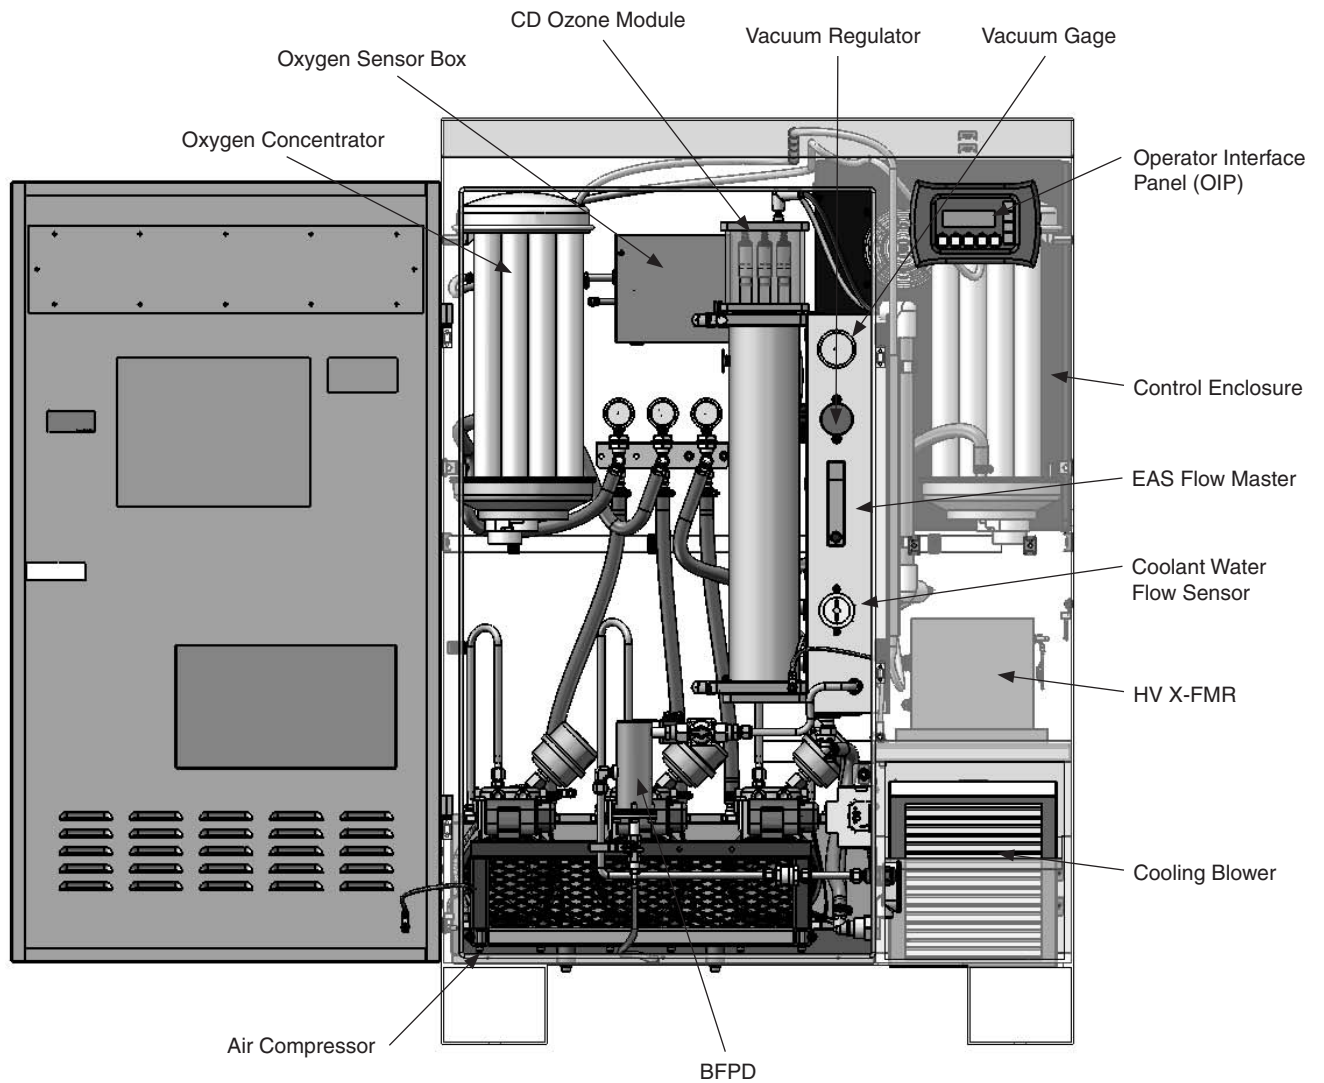

Figure 3: System Layout Diagram
2. **Oxygen Concentrator(s):** Each oxygen concentrator receives power indirectly from the PLC through a power relay located in the control unit (*See Figure 3*). The PLC monitors oxygen system performance and will fault if oxygen concentration falls below 80%. The PLC regulates start/stop cycling to allow steady state performance and purge cycles during start-up and shut-down.